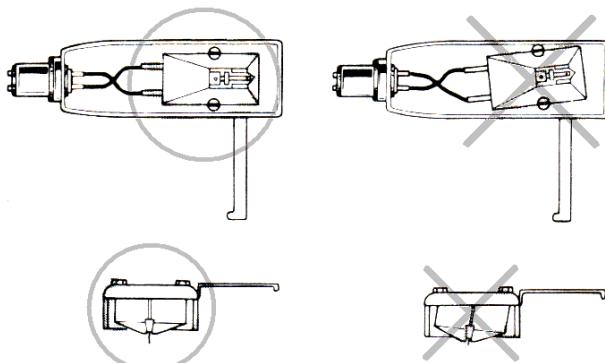
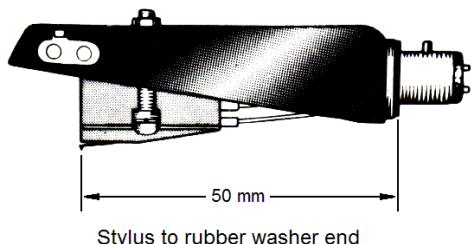

Fig. 4 Cartridge alignment
Fig. 5 Stylus point
- (2) When fixing the cartridge, at first, lightly fix it with screws so that it will move slightly. Adjust so that the head shell and the cartridge are in parallel and in right angle (Fig. 4). Securely fix the screws after positioning the cartridge in the dimension shown in Fig. 5. At this position, a specified overhang can be obtained when mounted on the tonearm.